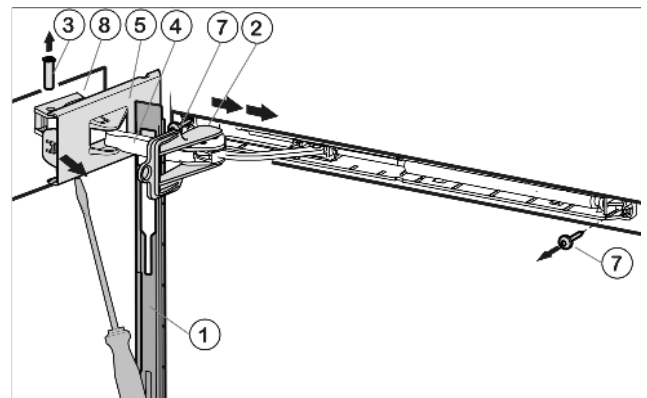

Fig. 5
- ▶ Slide the faceplate forwards over the soft stop bracket Fig. 5 (4) in the direction of the appliance.
- ▶ Snap the safety lock Fig. 5 (2) into the oblong hole.
- ▶ Using a screwdriver, detach the cover Fig. 5 (5) on the hinge side as far as the first detent.
- ▶ Press the pin Fig. 5 (3) out from underneath.
- ▶ Press the soft stop bracket Fig. 5 (4) towards the door.
- ▶ Fully detach the cover Fig. 5 (5) on the hinge side and remove it.
- ▶ Remove the faceplate Fig. 5 (1).
- ▶ Unscrew the soft stop unit (2x Torx® 15) Fig. 5 (7).
- ▶ Unscrew the bearing element *Fig. 5 (8)*, turn it 180° and transfer it to the opposite side. Possibly make preliminary holes with a bradawl or use a cordless screwdriver.